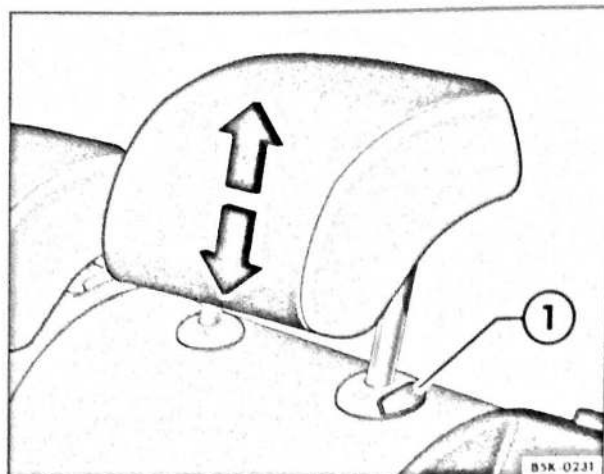

Fig. 47 Adjusting rear head restraint
- Push the head restraint up in the direction of the arrow or push it down while pressing and holding button ⇒ Fig. 47 ① ⇒ ▲.